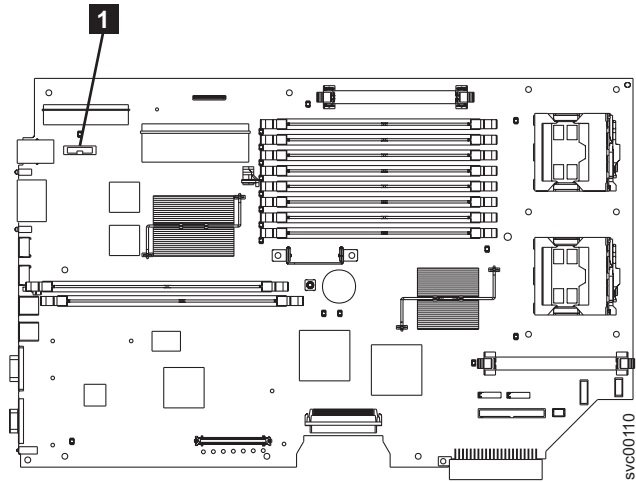

Figure 134. Battery location
5. Locate the battery **1** on the system board. Figure 134 on page 408 shows the location of the battery.